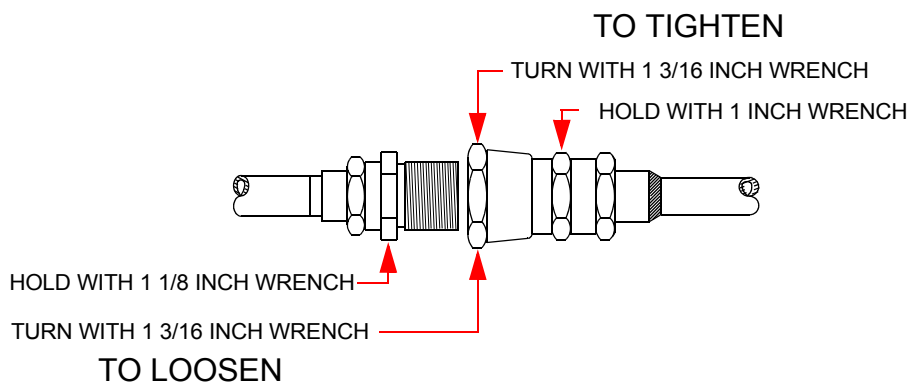
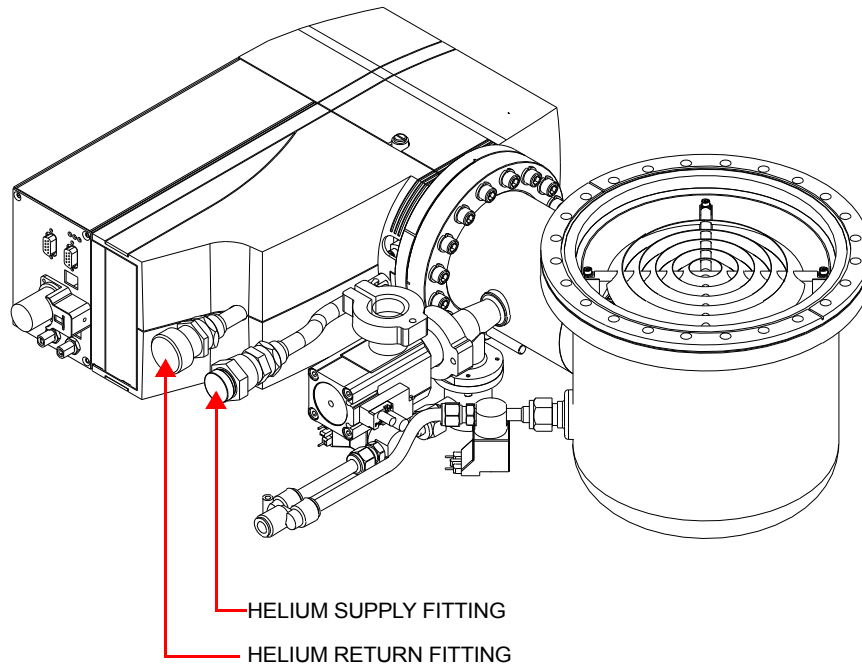

Figure 3-9: Connecting and Disconnecting Helium Flex Line Self Sealing Couplings
Figure 3-10: Helium Supply and Return Fitting Connections
<p style="text-align: center;">CAUTION</p> <p style="text-align: center;">Equipment Damage</p> <p>Make sure the helium flex lines are connected and disconnected from the IS 1000 Compressor appropriately, and as shown in Figure 3-9. Failure to follow this procedure could damage connector O-ring seals or cause a helium circuit leak.</p>
NOTE: Refer to Figure 3-9 and Figure 3-10 during this procedure.
2. Connect the Gas Return line to the GAS RETURN connector on the rear of the IS 1000 Compressor and then to the GAS RETURN connector on the On-Board IS Cryopump or helium manifold. Using two wrenches as shown in Figure 3-9, tighten the connector.
3. Connect the Gas Supply line to the GAS SUPPLY connector on the rear of the IS 1000 Compressor and then to the GAS SUPPLY connector on the On-Board IS Cryopump or helium manifold. Using two wrenches as shown in Figure 3-9, tighten the connector.
1. Using two wrenches as shown in Figure 3-9, disconnect the two self sealing coupling connectors quickly to minimize helium leakage.